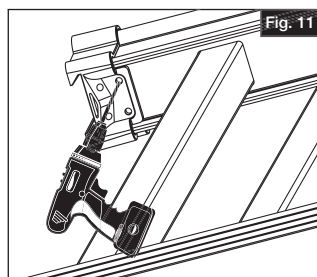

Fig. 11
- c. For top rail, pre-drill two holes underneath bracket with a $\frac{5}{32}$ " drill bit (2 per bracket) (Fig. 11).